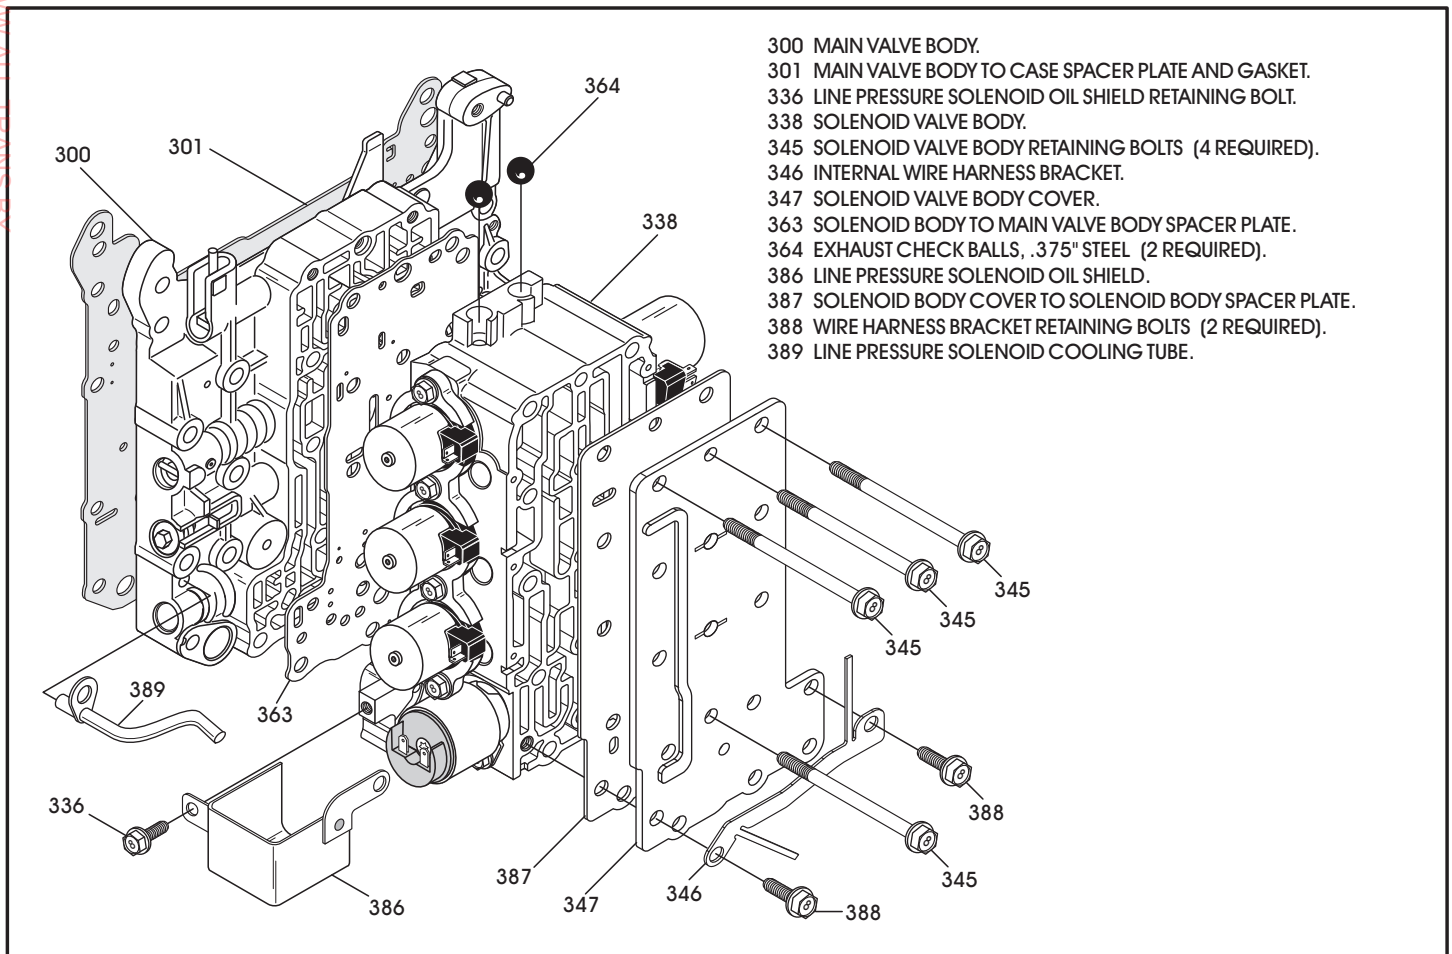

Figure 222
1. Remove the two exhaust check balls from the top of the solenoid body and place in a safe location, as shown in Figure 222.
2. Remove the line pressure solenoid cooling tube, as shown in Figure 222, which is held in place by a valve body to case bolt and place it in safe location.
3. Remove line pressure solenoid oil shield (386), as shown in Figure 222, place in safe location.
4. Remove the 2 solenoid body cover bolts (388), as shown in Figure 222, which also retains the internal wire harness bracket, and place in safe location.
5. Remove the four solenoid body to main valve body retaining bolts, as shown in Figure 222.
6. Remove the solenoid body cover, the solenoid body cover spacer plate, solenoid valve body, and solenoid body spacer plate, as shown in Figure 222.